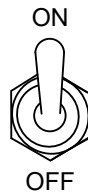

Figure 39. Control Power Switch (ON)
3. Place the **Control Power switch** (Figure 39) in the **ON** position.